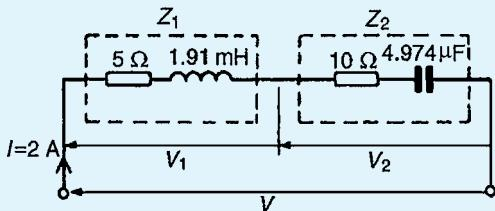

Figure 15.20
4. For the circuit shown in Fig. 15.20 determine the voltages  $V_1$  and  $V_2$  if the supply frequency